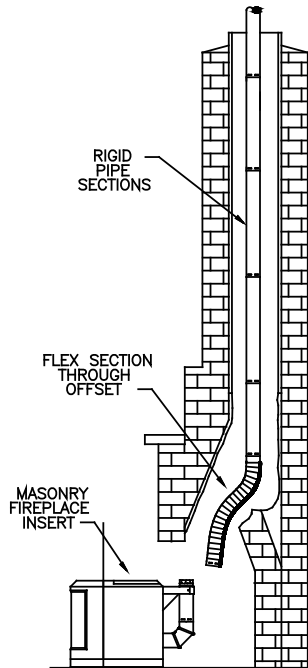

Figure 19
7. Repeat this process for the remainder of the pipe sections, and lower the assembly down the chimney as shown in **(Figure 19)**. Lower it below its normal position in order to connect the Flex Pipe to the pipe on the